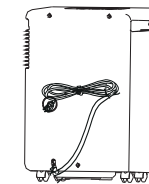

Fig. 12
- Wrap the cord and bundle it with the band (Fig. 12).